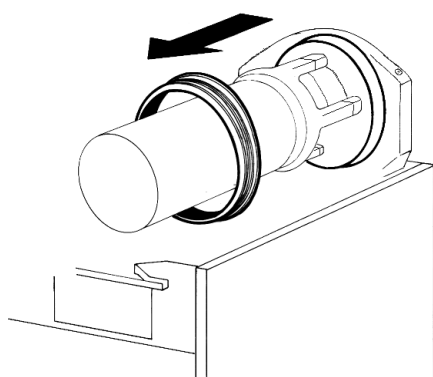
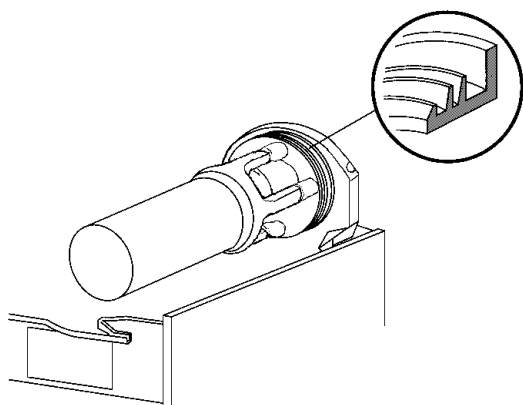

figure 9
figure 12
- 4 - Remove the bowl gasket from its seat (see figure 9).
- 2 - Lubricate faucet piston, inside auger and outer spiral (see points A, B and C of figure 12) only with the grease supplied by the manufacturer or other **food grade approved** lubricant.
- 4 - Fit bowl gasket around its seat (see figure 9). Note: the largest brim of gasket must face against the rear wall (see figure 12).